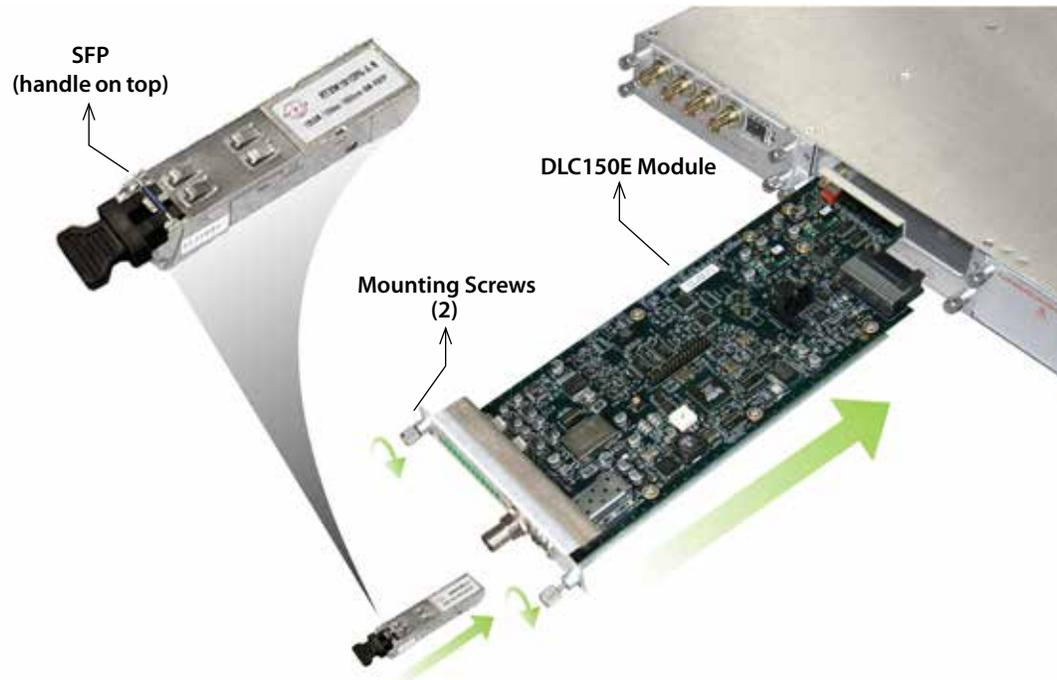

Figure 7. DLC150E Module and SFP Installation
To install the DLC150E in the host chassis (see Figure 7), perform the following steps:
5. Install the SFP in the DLC150E (handle on top as shown in Figure 7). Push the SFP into the socket located on the right side of the function module until it is firmly seated into the socket.